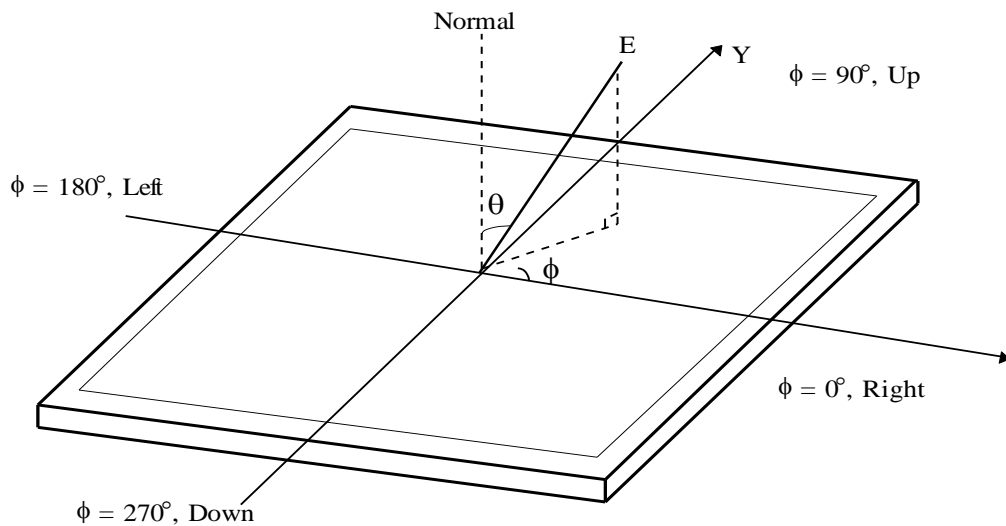

FIG. 5 Viewing Angle
6. Viewing Angle Color Shift (VACS) is defined as follows after measuring color coordinates at each angle.; $VACS = \sqrt{(du^3 + dv^3)}$ (@ CIE (u' , v') color space) For more information, see the FIG. 5.